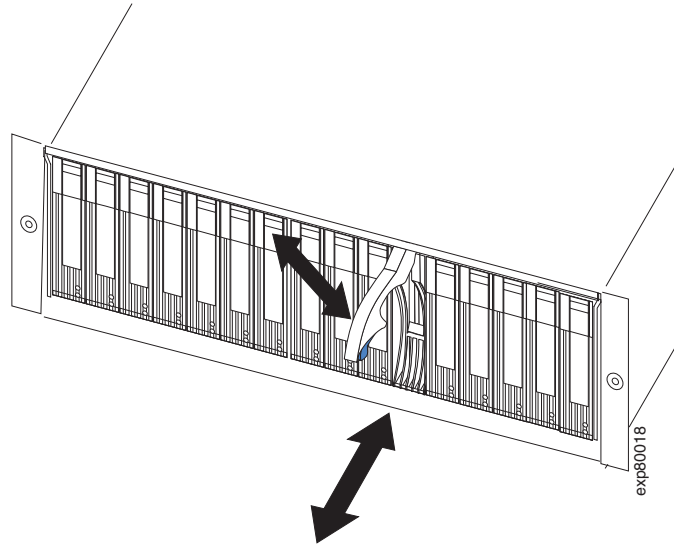

Figure 27. Replacing an E-DDM
1. Lift up on the handle and gently push the E-DDM CRU into the empty bay until the hinge of the tray handle latches beneath the storage expansion enclosure bezel, as show in Figure 27.